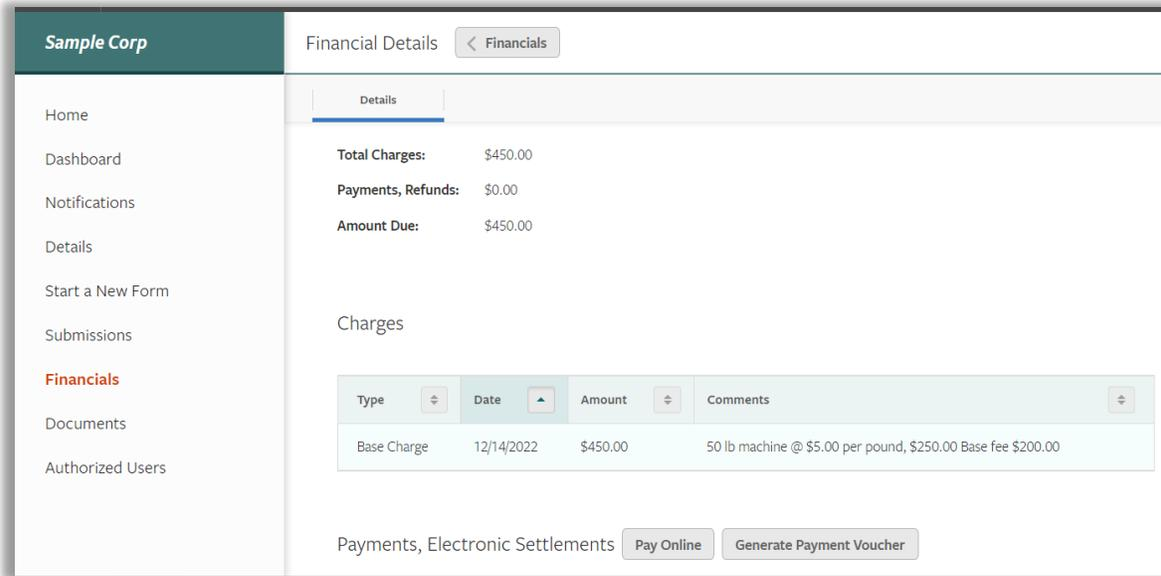

Figure 6-9 – Pay Online or Generate Payment Voucher
**Step 3:** Click on **Generate Payment Voucher**. See Figure 6-9.